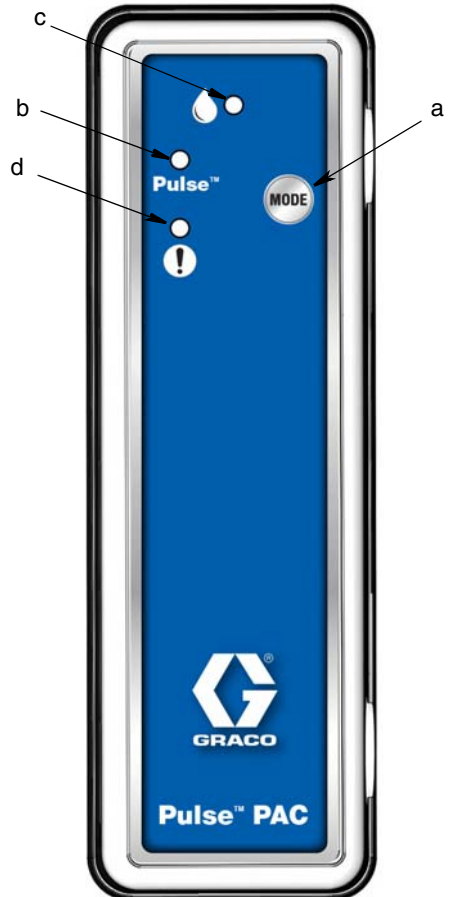

FIG. 13
3. Connect power to the PAC. (Red light (d) turns on.) Wait 30 seconds. (Blue light (b) turns on.) (FIG. 13)
4. On the PAC, press and hold the Mode button (a) for 5 seconds (FIG. 13). (Green light (c) turns on. Blue light (b) and Red light (d) turn off.)
5. Press and hold the Mode button (a) again for 5 seconds, then release (FIG. 13). (Green light (c) stays on. Blue light (b) and Red light (d) turn on.)
7. When the Blue light (b) stops flashing and turns solid blue, the PAC registration sequence is complete (1 to 3 minutes) (FIG. 13). (Red light (d) stays on.)
Press and hold MODE button (a) for 5 seconds (FIG. 13) to select Pulse or Work Off Line mode.